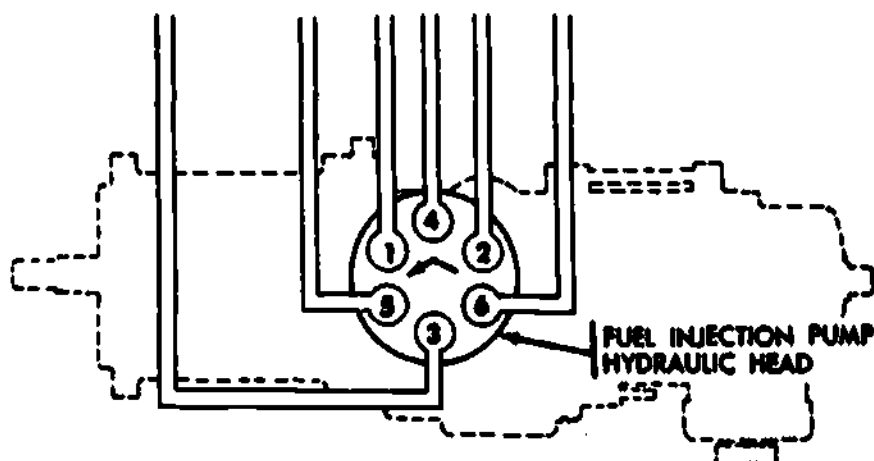

Fig 3-11. Hydraulic head.
- (1) **Hydraulic head (fig 3-11).** The hydraulic head has only one fuel plunger which must pressurize the fuel for all six cylinders. The plunger is moved up by one lobe of the three-lobes cam mounted on a camshaft. Spring pressure pushes the plunger down. One turn of the camshaft causes the plunger to move up and down three times. Each time the plunger moves up, it pressurizes fuel trapped above it. This fuel is then injected into the combustion chamber of one of the cylinders by an injector nozzle. The injector pump camshaft rotates two turns to pressurize the fuel six times, once for each of the engine's six cylinders. The pump must distribute or direct the pressurized fuel to the right cylinder.